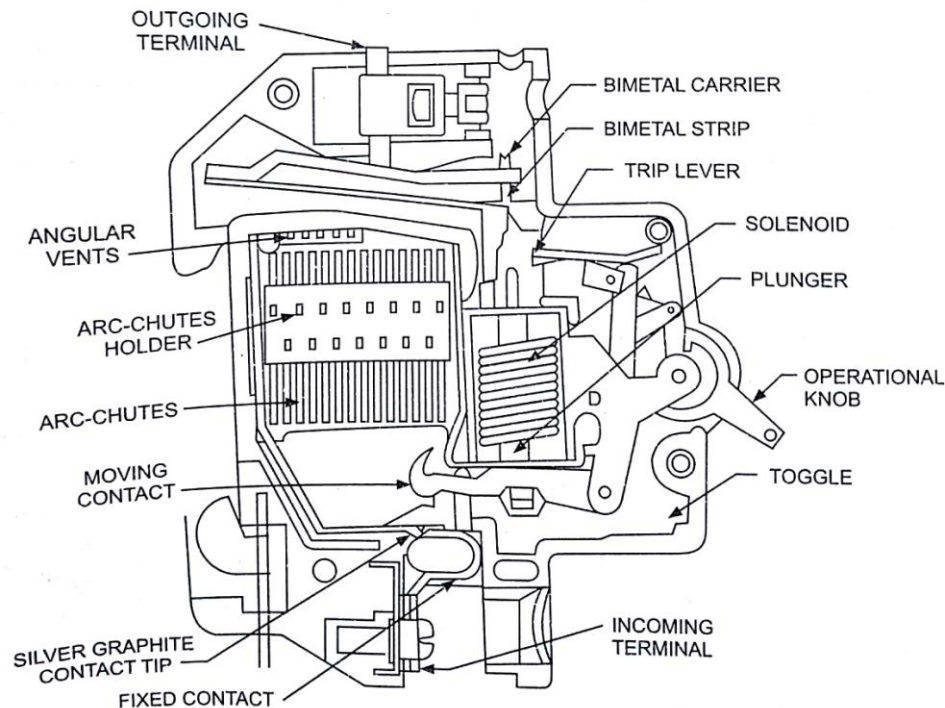

Fig.5.3: Miniature Circuit Breaker
- MCB is a device that provides definite protection to the wiring installations and sophisticated equipment against over currents and short-circuits faults. The outer and interior views of an MCB are shown in Fig.5.3.